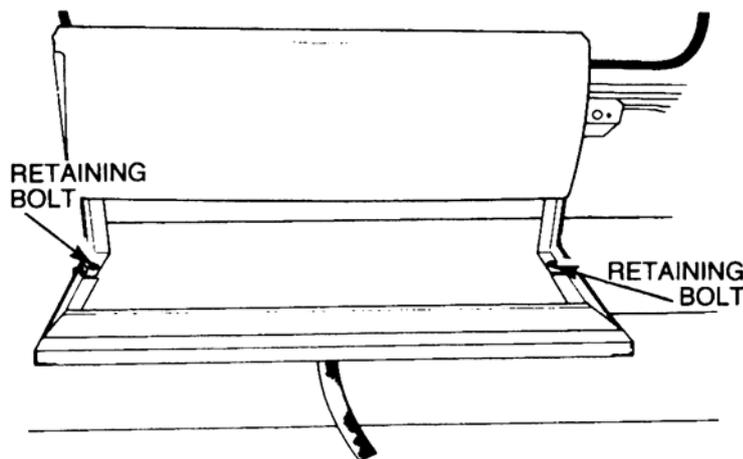

Figure 4 Left Side Rear Inward Facing Seat Removal
- Remove the bolts, washers and nuts retaining the seat base to the wheel arch (refer Figure 4).